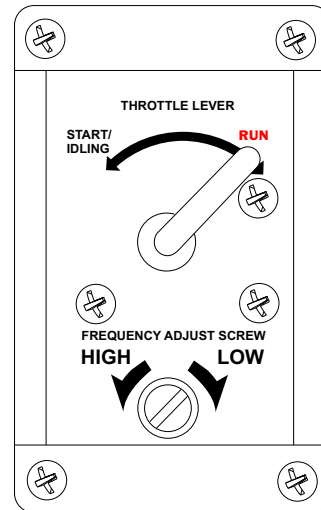

Figure 45. Throttle Lever (Run Position)
6. After the engine warmup process has been completed, place the **throttle lever** in the **RUN** position (Figure 45). Reference Table 14 for desired engine speed versus frequency.